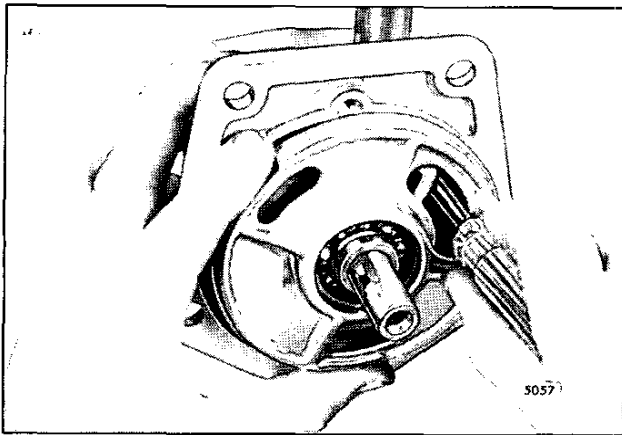

Fig. 6 – Removing or Installing Operating Shaft Fork
3. Turn the bearing retainer until the large opening is centered over the fork on the governor operating shaft (Fig. 6).
7. Insert the correct end of the single or double lever type speed control lever shaft (Fig. 6) through the bearing bore in the side of the spring housing opposite the bearing previously installed. Align the key in the shaft with the keyway in the spring lever and push the shaft through the lever and in the bearing until the flat on the top of the shaft is centered under the set screw hole in the lever.